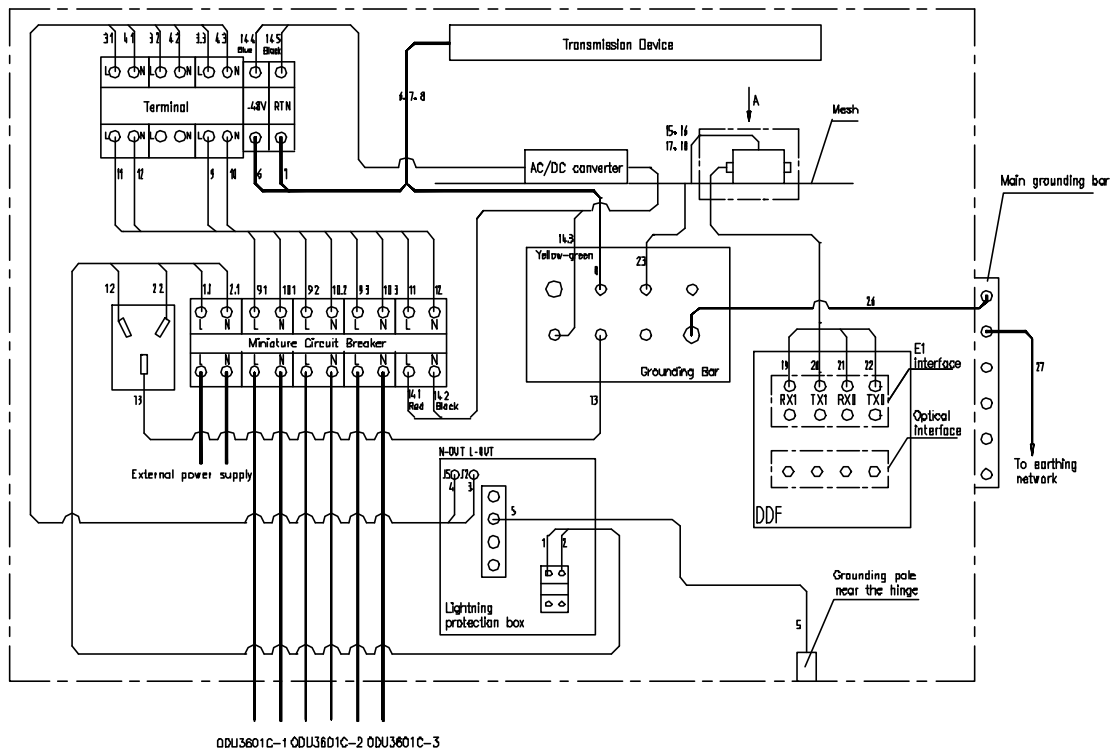
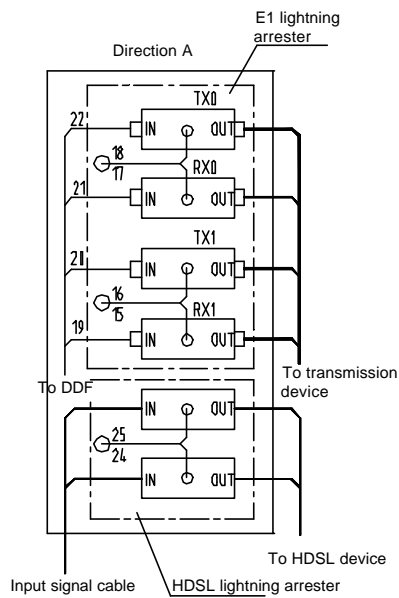

Figure 2-52 Cable distribution of IAFB networking (without UPS)
Figure 2-53 Trunk cable distribution of IAFB networking (without UPS)
Please connect the relevant cables correctly according to the labels on them, the correspondence shown in Figure 2-52 and Figure 2-53, and the correspondence between labels and cables shown in Table 2-3.
- 1) Figure 2-53 shows the front view of cable connection on DDF shown in Figure 2-52.